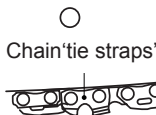

Fig. 7
1. Place the product on a suitable flat surface with the chain saw cover (12) facing forwards.
2. Check the chain tension using one hand to lift the saw chain (8) against the weight of the product. The correct chain tension is achieved when the saw chain can be lifted by approximately 2 - 4 mm from the guide bar (9) in the centre (Fig.7, 8).